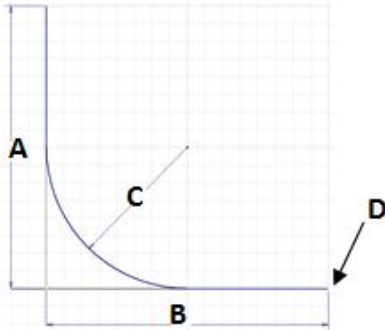
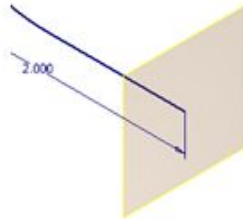

FIGURE 17
FIGURE 18
- Draw two lines from the origin, with a fillet between them as shown in **FIGURE 17**, with dimensions **A=2"**, **B=2"**, and **C=1"**
- Move your cursor over point **D** in **FIGURE 17**. The point should have an X marker. Click once on the point, and you will notice the outline of a new plane appear. Click again to create the new work plane perpendicular to and centered on line **B**. The plane should appear as in **Figure 18** above